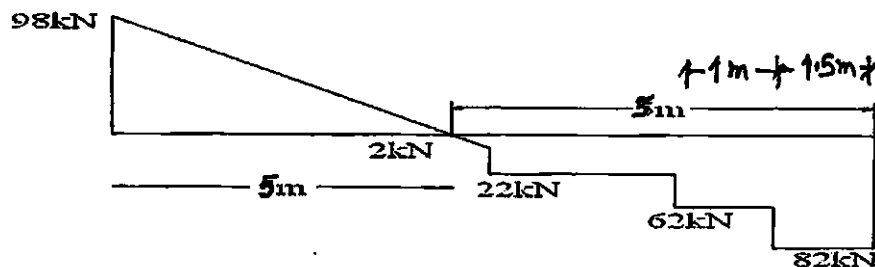

Fig. 6.2
- (b) The Diagrams as shown in Fig. 7 is the shear force diagram for a beam which rest on two supports. Construct the bending moment diagram and loading diagram. (Fig. 6.2) [7]